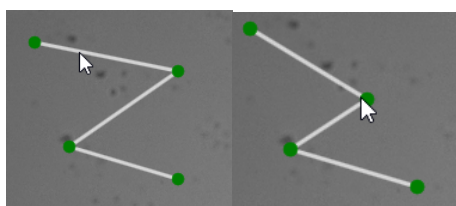

Figure 3-51 Selecting objects
7. Press **SELECT** to select and manipulate objects, see Figure 3-51.